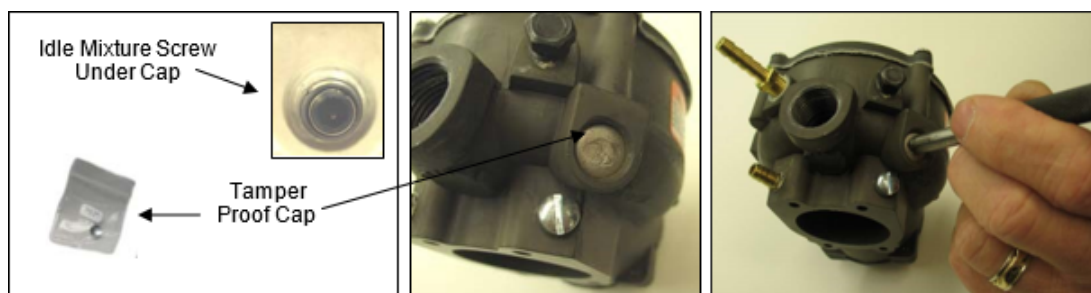

Figure 6-9. Installing Tamper Proof Cap
11. Install the tamper proof cap on the idle mixture screw adjustment port using a large pin punch, so that no further adjustments can be made (Figure 6-9).